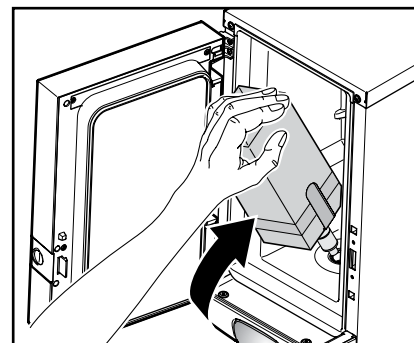

Fig. 20
7. Insert the product pack (fig. 20).